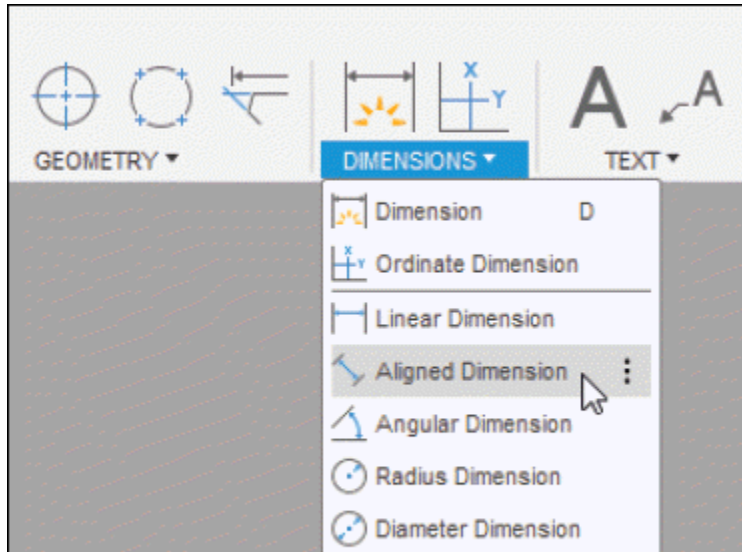

Figure-56. Aligned Dimension tool
- Click on the **Aligned Dimension** tool from **DIMENSIONS** panel in the **Toolbar**; refer to Figure-56. You will be asked to select points.